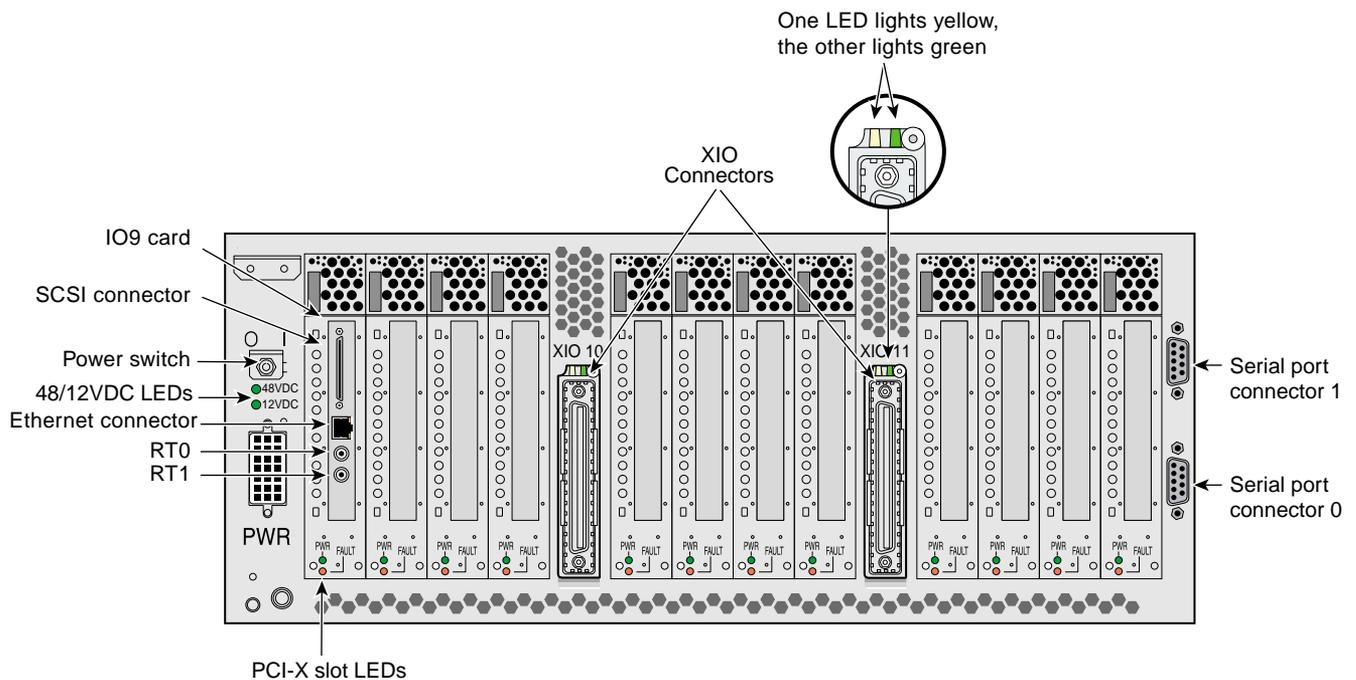

Figure 4-5 Rear Panel of IX-brick
- Two RS-232 DB-9 serial port connectors. (These two connectors are not located on the IO9 PCI card; instead, they are located on the right side of the IX-brick rear panel [see Figure 4-5 on page 73].)
The IX-brick has the following rear-panel components (see Figure 4-5):